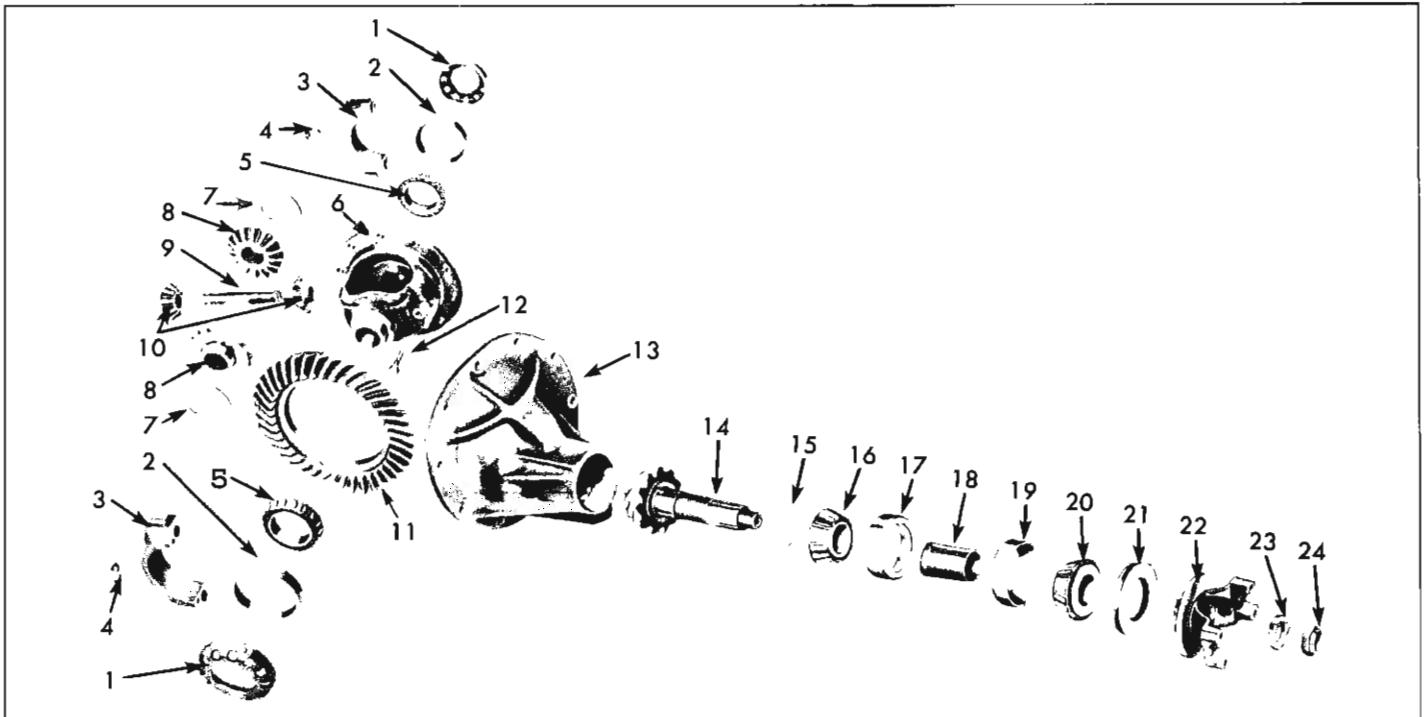

Fig. 15—Axle Exploded
10. Wash all parts in cleaning solvent. Thoroughly clean axle housing. Figure 15 shows the parts layout.